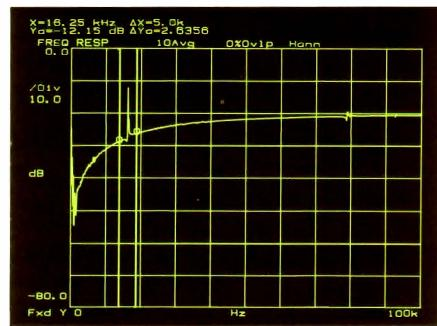

Figure 2-3
2. Band Marker In the X-marker softkey menu select **HOLD X CENTER**. This activates the "band marker" capability; turning the marker knob will adjust the width of the band while holding the center frequency constant. The crystal resonator response with the band cursor activated is shown in Figure 2-3.